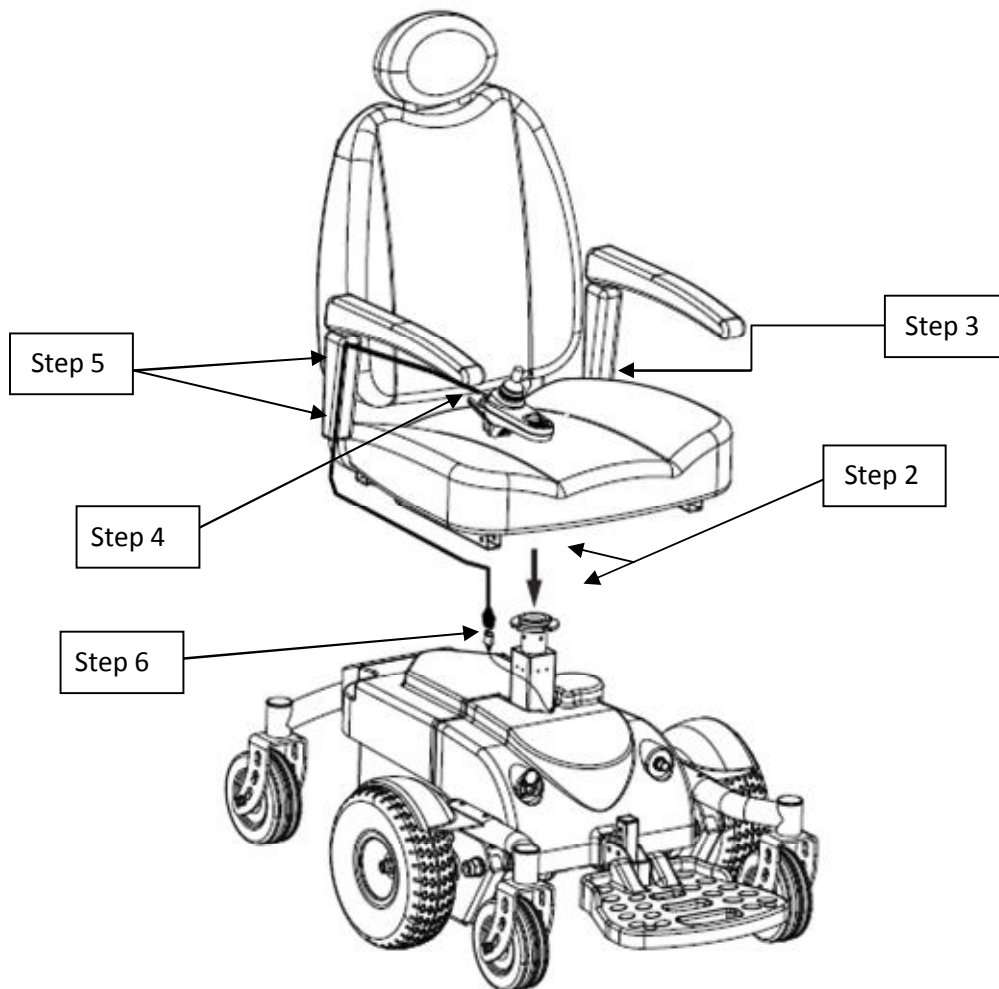

Figure 8
2. Slide seat into the power base seat post. See Figure 8 below.